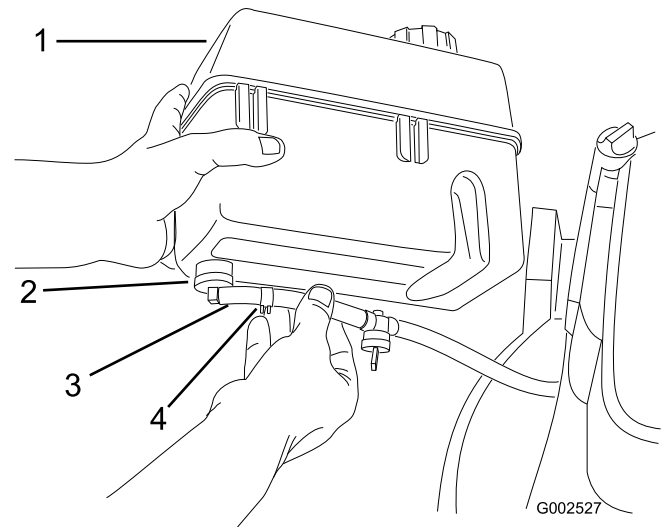

Figure 5
1. Slide the end of the fuel line onto the elbow fitting (Figure 5).